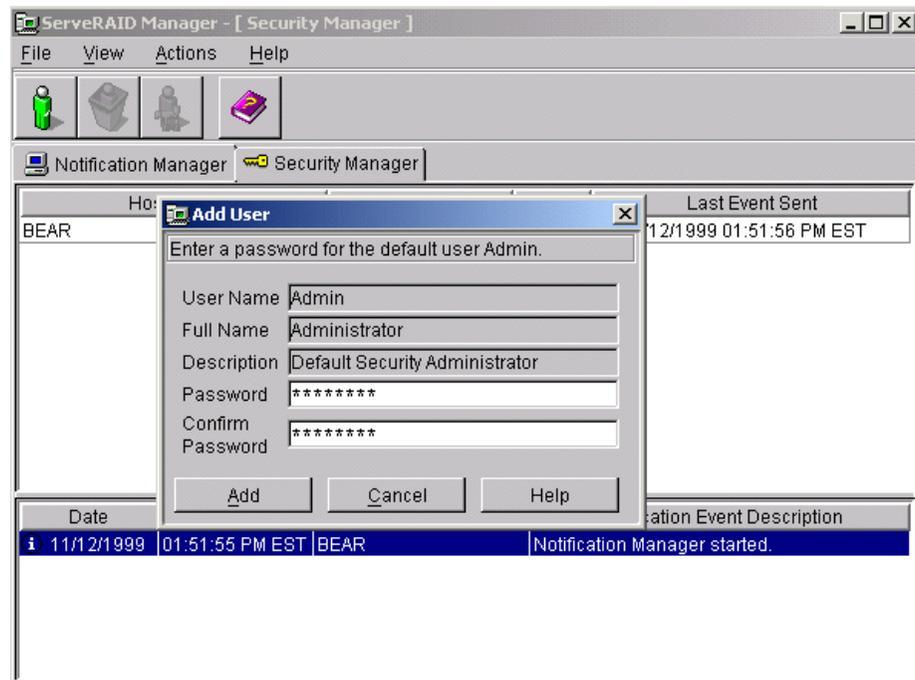

Figure 73. Setting up a security account
2. Because this is the first time the Security Manager is opened, you will be prompted to enter a password for the default administrator account Admin, as shown in Figure 73. You must type in a password. You can create, edit, and delete additional users, but the default administrator account is the only one that can't be renamed or deleted.